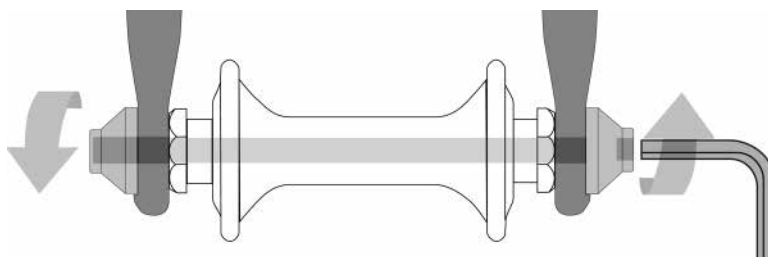

fig. 18
2. A hollow axle with a shaft ("skewer") running through it which has a nut on one end and a fitting for a hex key, lock lever or other tightening device on the other (fig. 18).